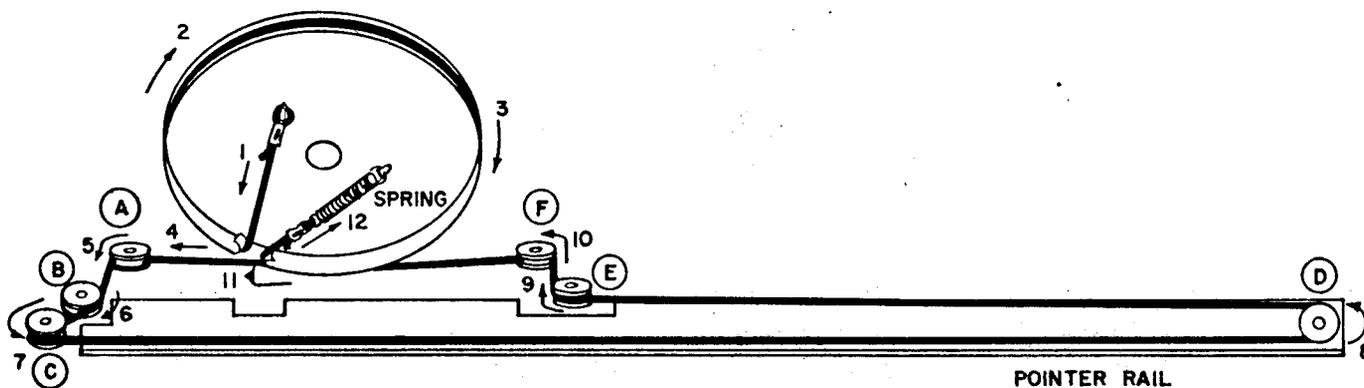

Figure 15. Dial Cord Stringing Diagram
5. Restring the dial cord as follows (Fig 15):
- a. Attach the end of the cord to the tab (1) and pull the cord down and around the wheel. Proceed clockwise around the wheel (2 and 3) down behind wheel A (4).
- b. Continue up over wheel B (6) up to wheel C (7). Proceed across pointer rail to wheel D (8).
- c. Continue around wheel D to the left and over wheel E (9). Proceed down behind wheel F (10).
- d. Finish up by routing the cord into the wheel slot (11) and attach the spring on the tab (12).